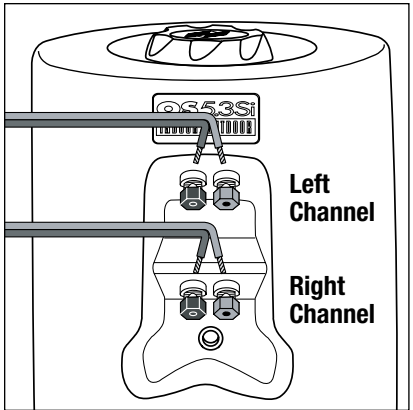

Figure 11. Loudspeaker wire connections.
5. Using correct polarity at the loudspeaker, connect left- and right-channel wires to the two sets of five-way binding posts, as shown in **Figure 11**. Connect the other end of each loudspeaker wire to the receiver (or amplifier) in the same way.